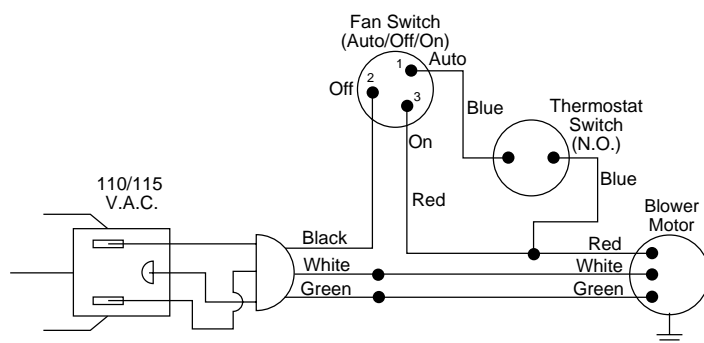

Figure 20 - Wiring Diagram For Blower Accessory Built-In Installation
- A licensed electrician must follow the wiring diagram to connect incoming electrical supply to fan kit wiring harness (see Figure 20).